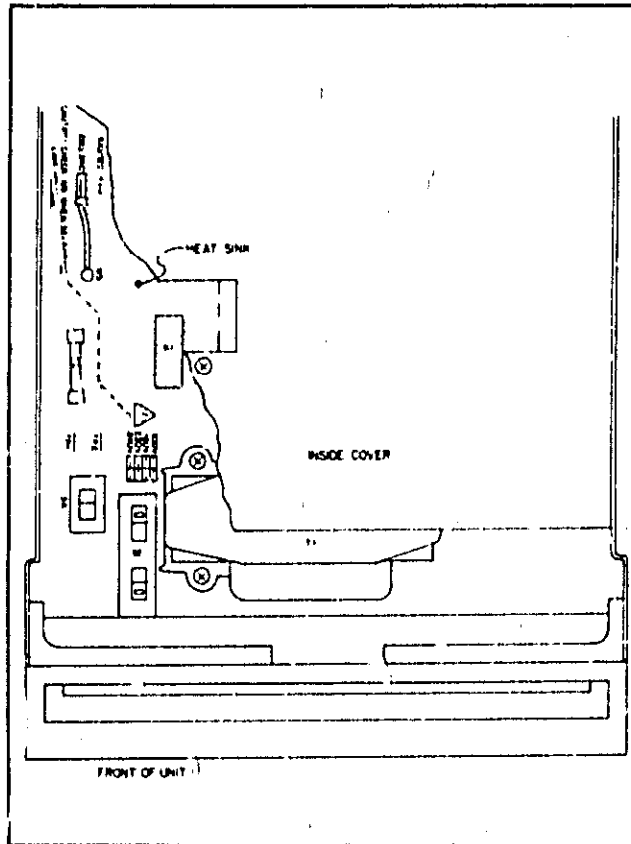

Figure 2-3. Line Voltage Selection Components
- b. The line voltage select switch is located in the front (left corner of the instrument (see Figure 2-3). Use a small-blade screwdriver to set the two switch sections to match the pattern silkscreened on p.c. main board as shown in Figure 2-3. For example, to set switches for 120 V operation (as illustrated), move forward switch section so that its white slot is toward front of instrument and move rearward switch section so its white slot is toward rear of instrument.